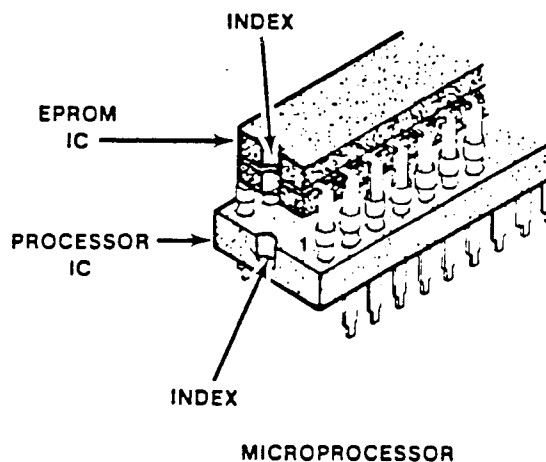

Figure 4. - EPROM indexing diagram.
- () 3. Install the new EPROM microcircuit into the socket, using the same tool used in step 2 in this section. Check that all the microcircuit pins are straight and evenly spaced to ensure proper installation. Refer to Figure 4, EPROM indexing diagram.